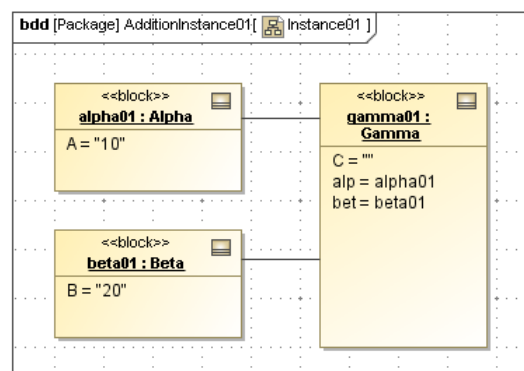

Figure 2.24 Instance diagram, final
- c. Repeat step a for gamma, but do not specify a value and for <<causality>>, select "target". Final instance diagram should appear similar to Figure 2.24.